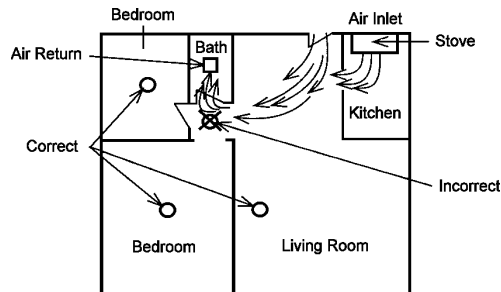

Figure 6
- In air streams passing by kitchens. Figure 6 shows how an alarm can be exposed to combustion particles in normal air movement paths, and how to correct this situation.